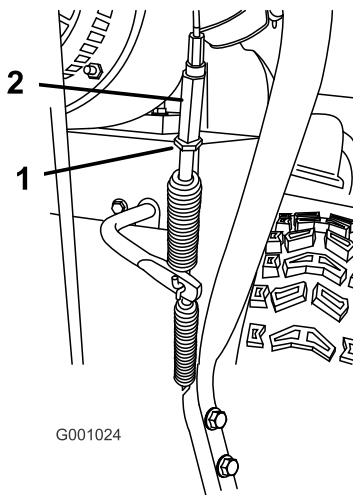

Figure 49
5. Loosen the jam nut (Figure 49).
6. Loosen or tighten the turnbuckle that adjusts the tension on the cable (Figure 49).